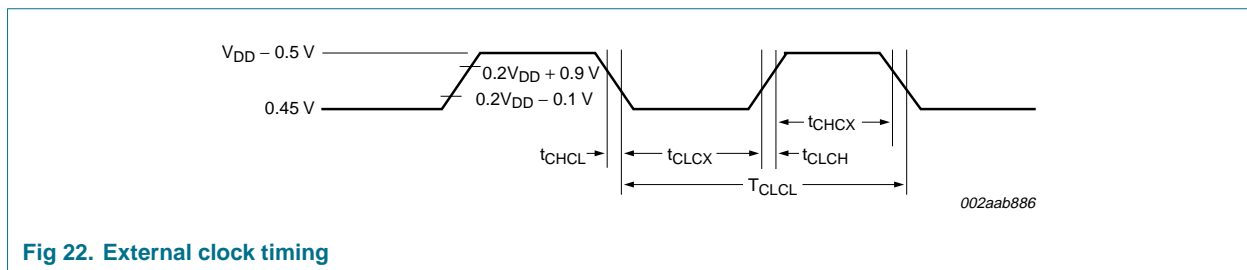

Fig 22. External clock timing
External clock input (SC18IS601); see Figure 22
**External clock input (SC18IS601); see Figure 22**